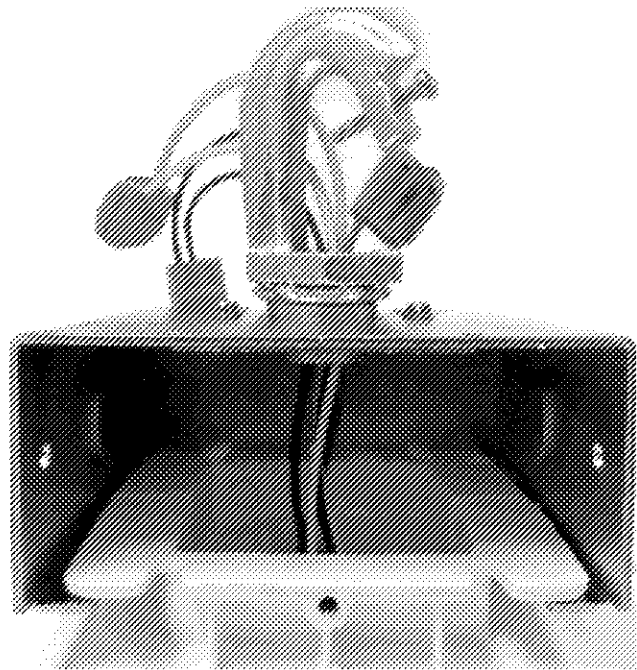

Figure 5
7. Close the ballast box and secure tightly using the original screws provided. Then pull the wires through the top of the ballast box hook assembly. Hang the fixture from the hook and tighten the screw. See Figure 5